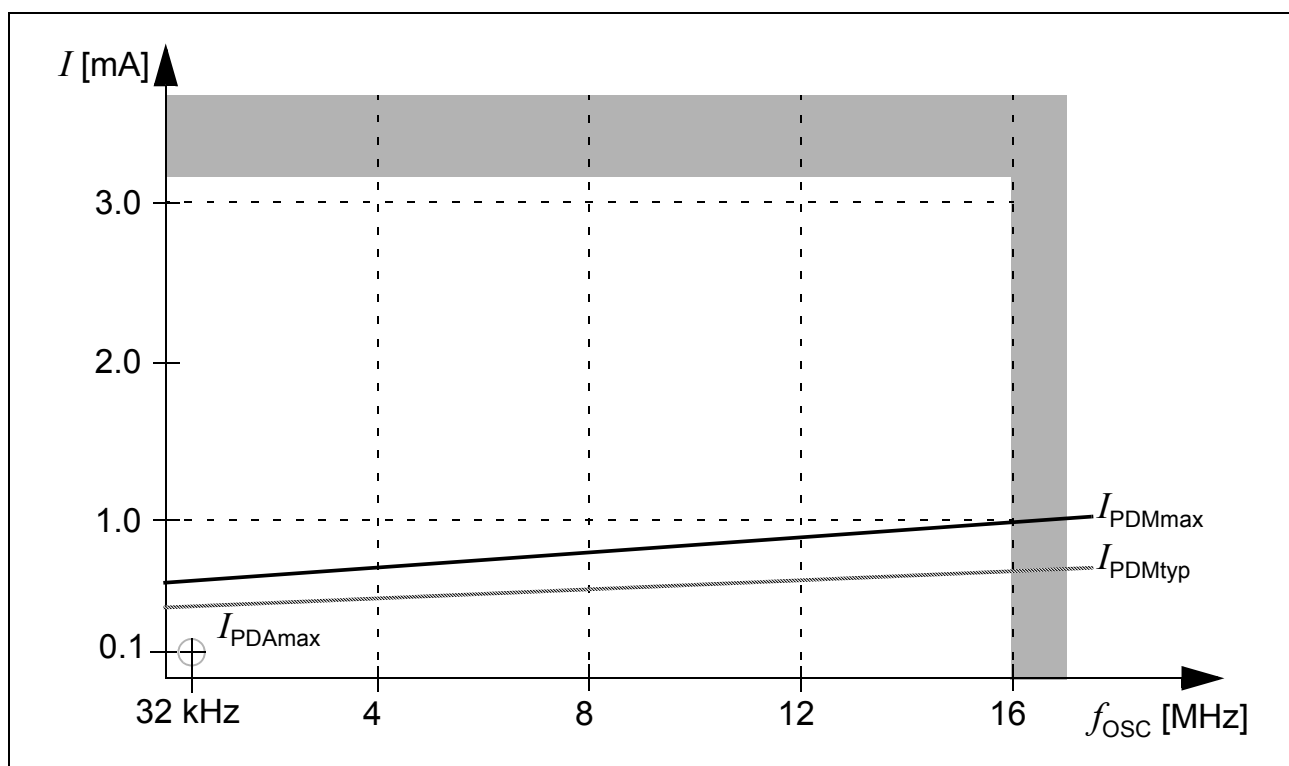

Figure 12 Sleep and Power Down Supply Current due to RTC and Oscillator Running, as a Function of Oscillator Frequency
- 7) This parameter is determined mainly by the current consumed by the oscillator switched to low gain mode (see Figure 12). This current, however, is influenced by the external oscillator circuitry (crystal, capacitors). The given values refer to a typical circuitry and may change in case of a not optimized external oscillator circuitry.